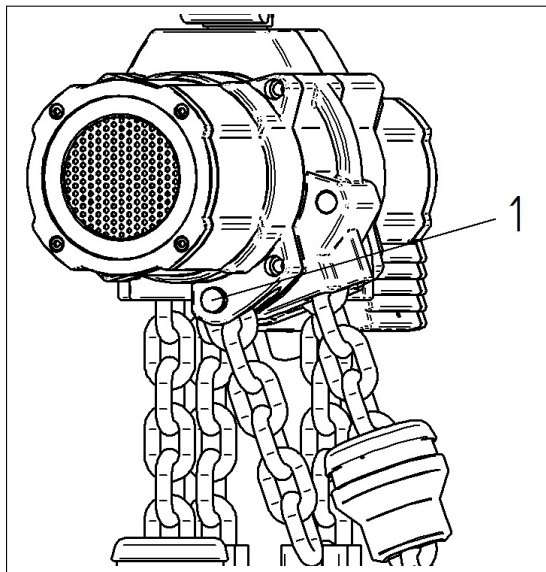

Figure 8: Dead end chain mount
The last link of the dead end chain mount (unloaded chain end) is attached to the empty strand anchorage (↔ Figure 8 (1)). This serves the purpose that the empty chain strand does not dangle so long and thus cannot lead to the hazardous situations listed above.